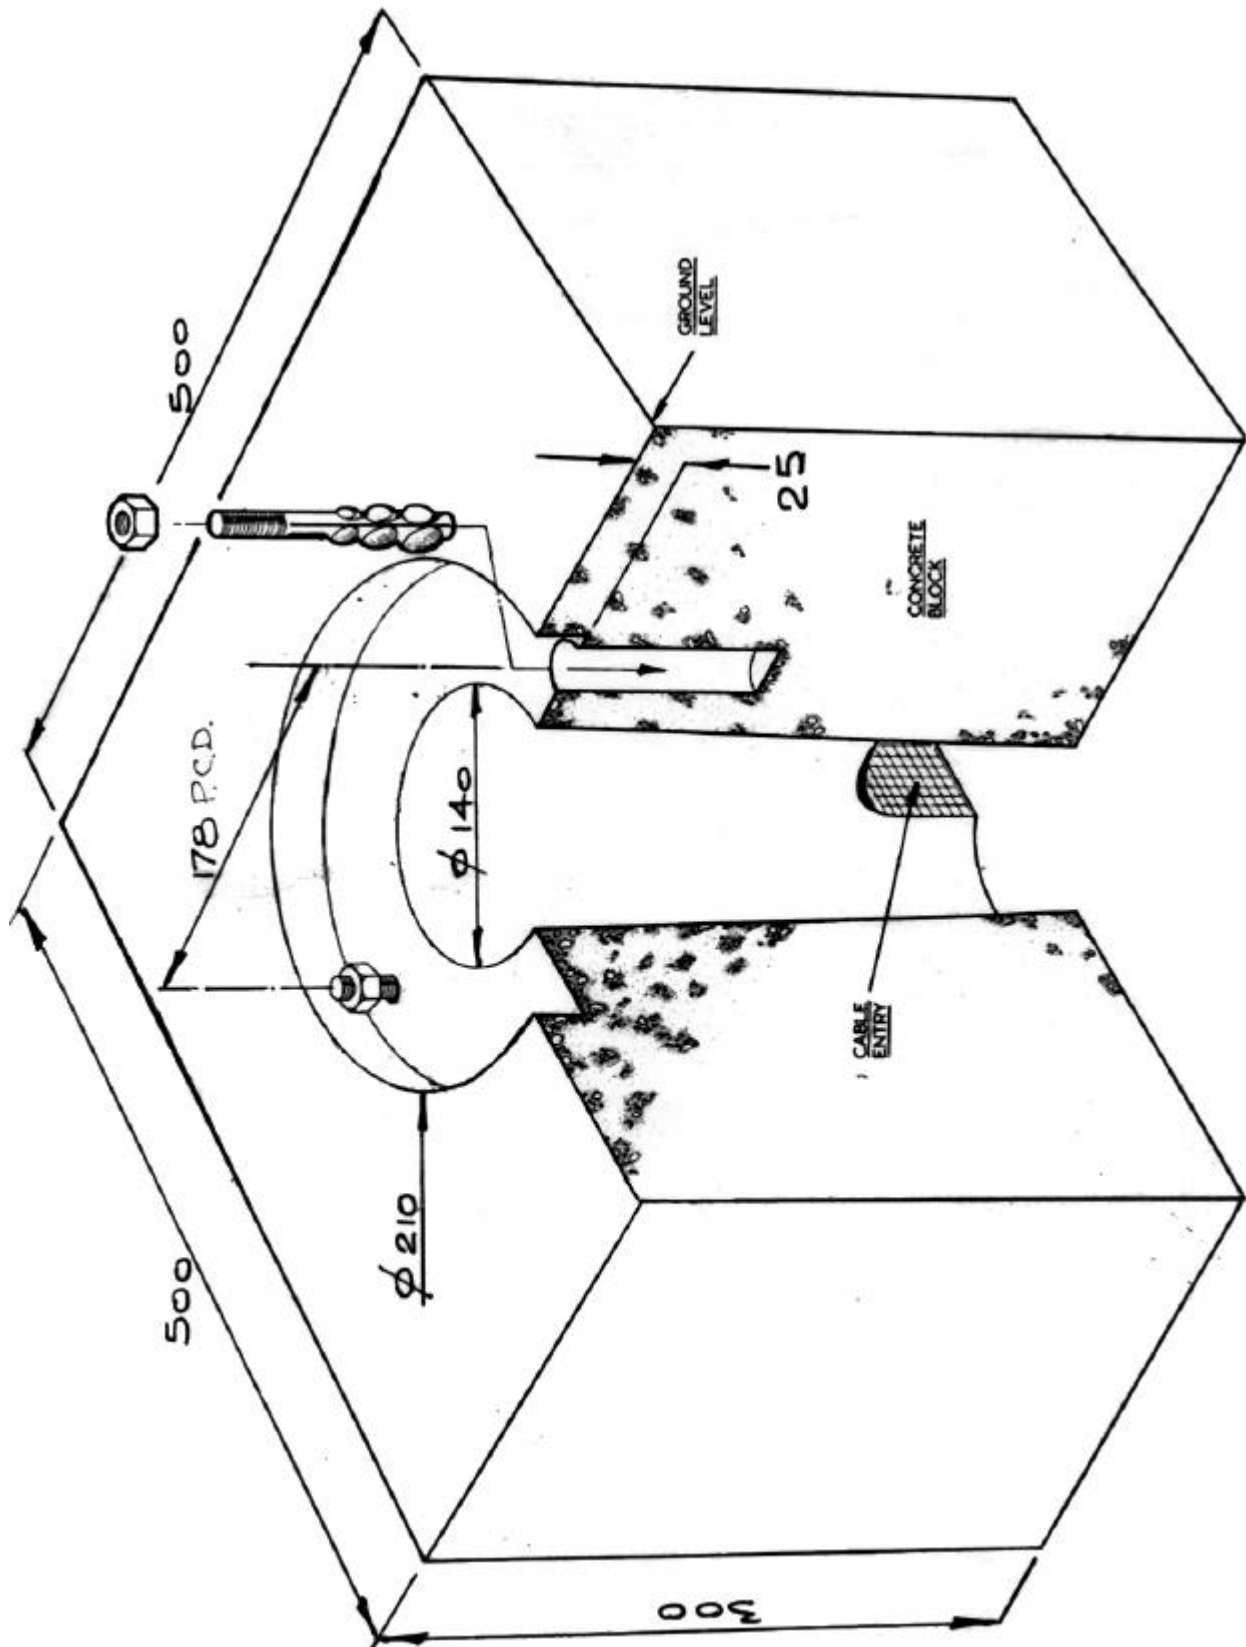

Fig. 2. Concrete Base for ZA290 fitting (derived from Drg No. F25307)
- Provide a pre-formed concrete block generally as shown in **Fig. 2** on page 7, (Extract from drawing No. F25307).
The concrete block to be approximately 500mm square x 300mm deep, and have a recess on the top surface of 210mm (8 1/4") diameter and 25mm (1") deep with 2 equally spaced M10 holding down bolts cast in on a 178mm (7") P.C.D. A hole, 140mm (5.5") diameter through, is cast centrally in the block. See **Fig. 2**.